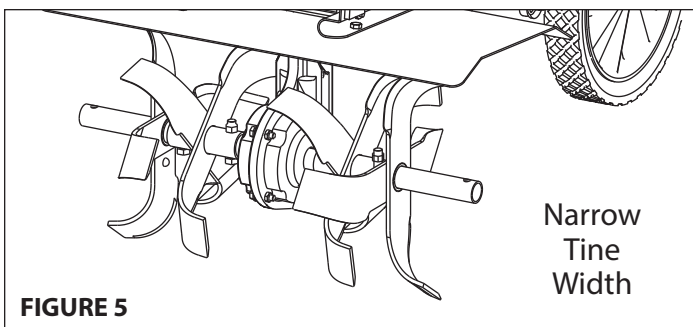

FIGURE 5
- Outside tines have two positions- wide 21" and narrow 16". For narrow width, assemble with short side of tine holder pipe towards center of machine. **SEE FIGURE 5**